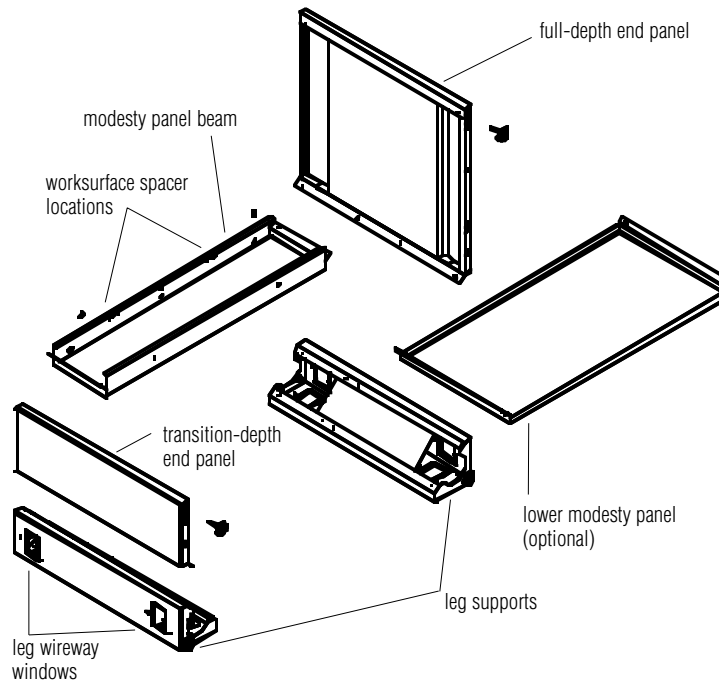

Figure 1
1. Remove all components from carton and locate hardware pack. Assemble one glide to each leg support on end with single-threaded inset. Attach leg wireway windows from inside of leg by hooking the long lip onto the rectangular cutout in leg support, flex the short lip slightly to clear cutout and push into place (Figure 1).
2. Place two leg supports on a soft surface approximately the same width as the desk. The open face of the triangular support should face up and toward the center of the workstation. Place a modesty panel beam between the leg supports, aligning holes in each flange with those of the leg supports. Secure with four 1/4-20 x 1/2 screws (Figure 1).
3. Refer to space plan to determine whether the unit is to have full- or transition-depth end panels and their location. Align holes in end panel flange with those of the leg support. Secure with three 1/4-20 x 1/2 screws. Assemble glide to the threaded insert facing the same direction as the leg support glides and adjust to approximately the same height (Figure 1).
4. If required, install lower modesty panel below modesty panel beam by aligning holes in each flange with those of the leg supports. Secure with four 1/4-20 x 1/2 screws (Figure 1).